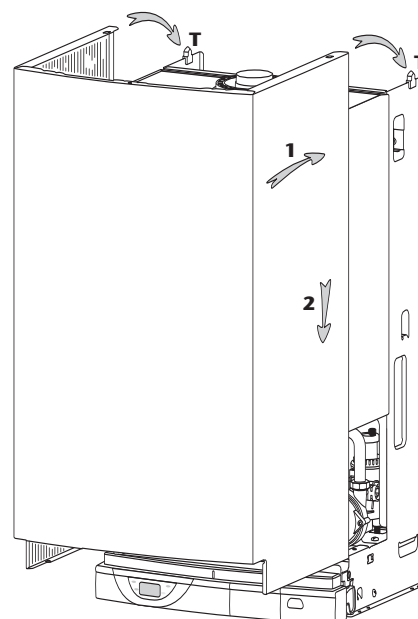

Fig. 17
- Position the casing as shown (Fig. 17)